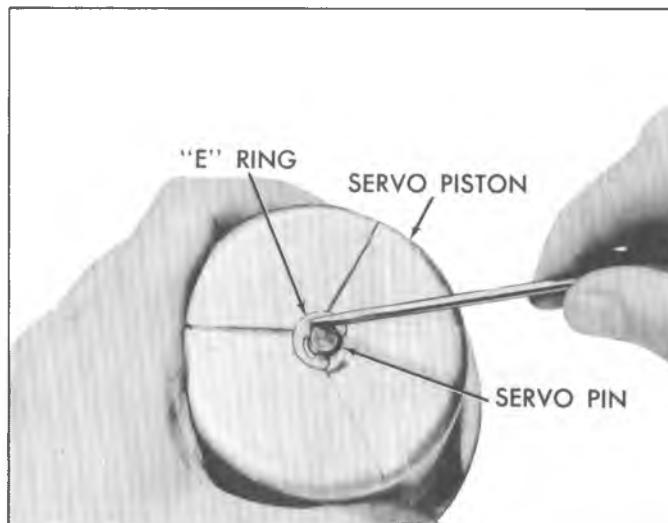

Fig. 7A-63C--Removing Retaining "E" Ring from Rear Servo Pin
1. Remove rear accumulator piston from rear servo piston (Fig. 7A-62C-A).
2. Remove "E" ring retaining rear servo piston to servo pin (Fig. 7A-63C).
3. Remove rear servo piston and seal from servo pin (Fig. 7A-64C). (Exploded view.)